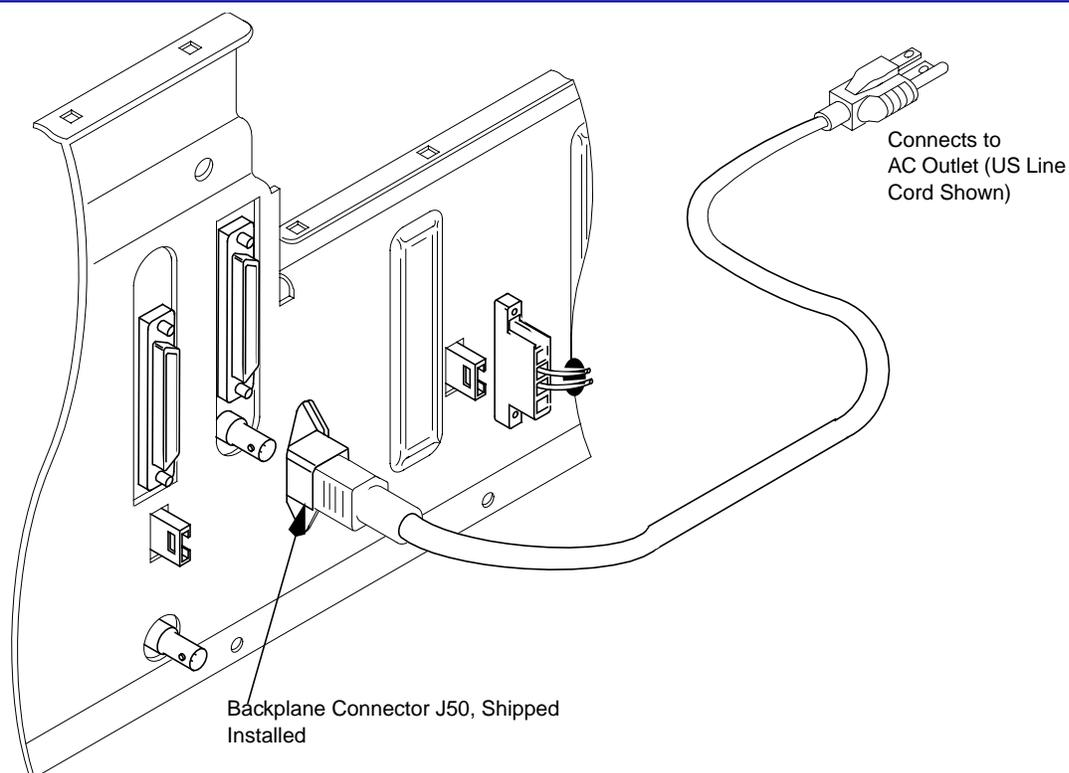

Figure 5-7: AC Power (US 120 Vac Shown)
- Connect the plug end of each cord to a grounded outlet (see Figure 5-7).